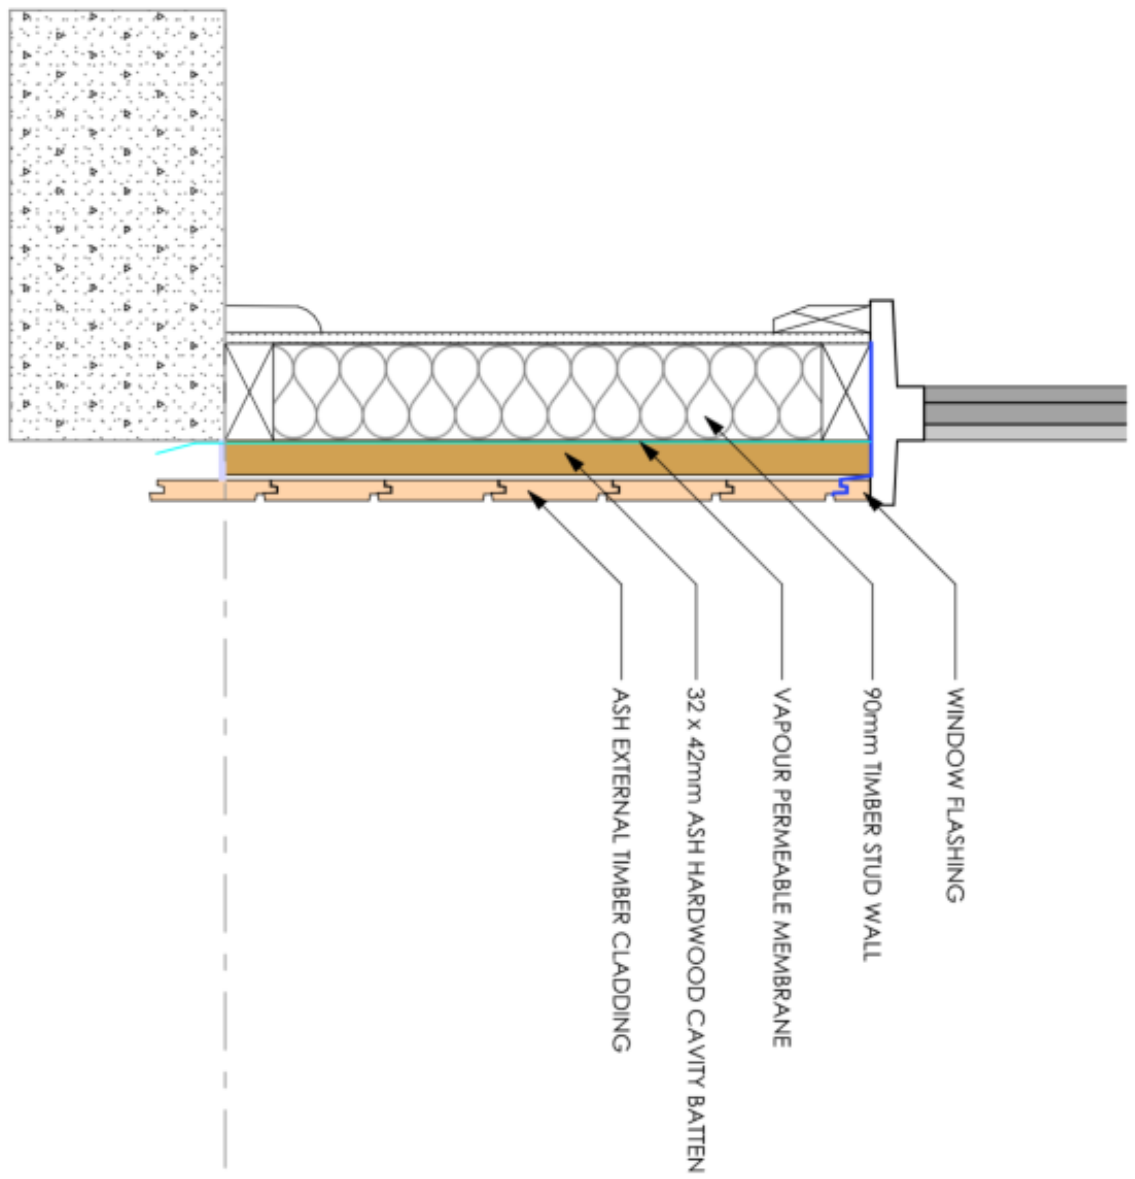

Figure 3.
- i. Cladding should overhang slightly at bottom edge and be cut at a ~15 degree angle to allow a drip-line. Boards must not be installed within 100mm of the pavement. (see Figure 3).
- h. Cladding should overhang slightly at bottom edge to allow a drip-line but must not be installed within 100mm of the pavement. (see Figure 3).